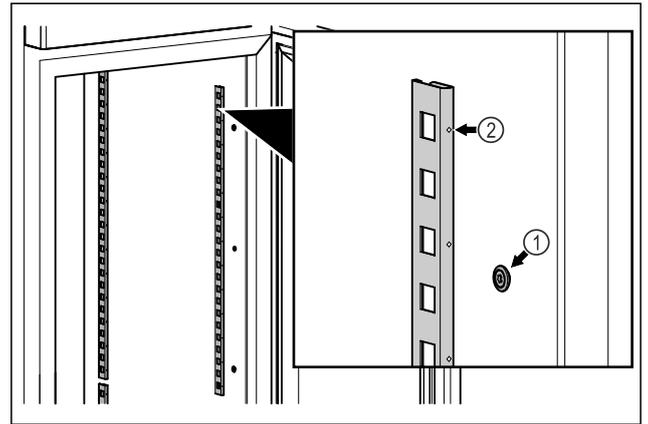

Fig. 48 Example illustration
- Hook the snap strips into the suspension Fig. 48 (1). Mark Fig. 48 (2) must point forwards.